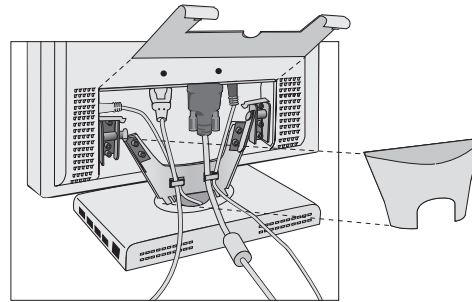

Figure R.1
1. Remove the connector cover and the cable cover (**Figure R.1**).